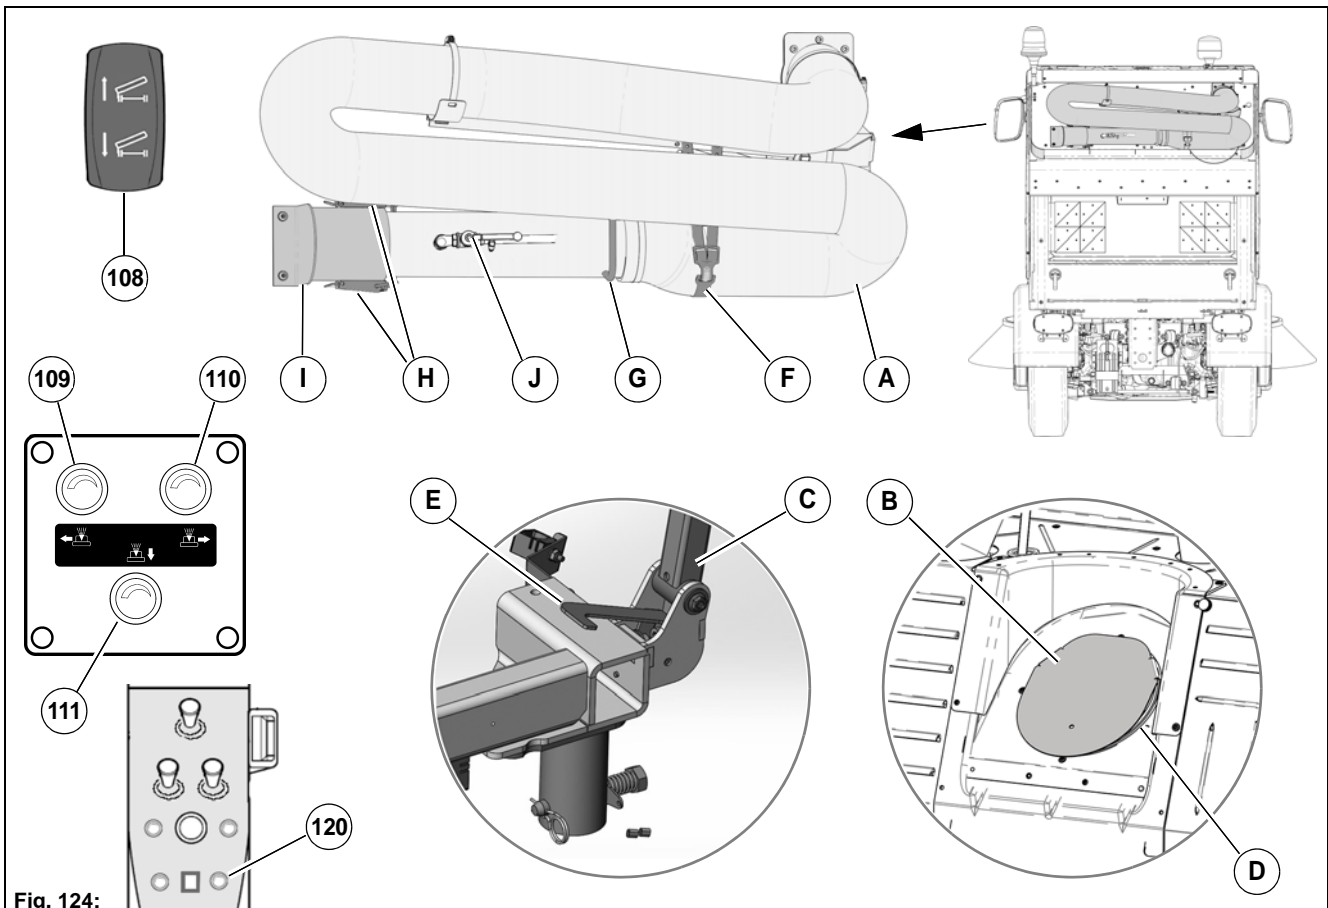

Fig. 124:
The hand suction hose **Fig. 124-A** is used for effectively cleaning difficult-to-reach points.
2. Work with the insert plate **Fig. 124-B** in case of heavy soiling. To do so, raise the dirt hopper with the tip switch **Fig. 124-108** and insert the safety strut **Fig. 124-C**, see page 222.
3. Push the insert plate onto the rubber seal of the suction duct **Fig. 124-D**.
4. Move the dirt hopper back into its end position. To do so, unlock the safety strut with the lever **Fig. 124-E**, see page 222.
6. Loosen the tension belt **Fig. 124-F** and the locks **Fig. 124-H** and use the handle **Fig. 124-G** to remove the hand suction hose from the side of the holder **Fig. 124-I**. Pay attention to the weight!
7. If dust formation is too great on dry ground, the fresh water supply can be switched on to bind the dust. To do so, close the valves **Fig. 124-109, 110** and **111**, switch on the fresh water pump with the switch **Fig. 124-120** and open the hand valve **Fig. 124-J** at the hand suction hose.